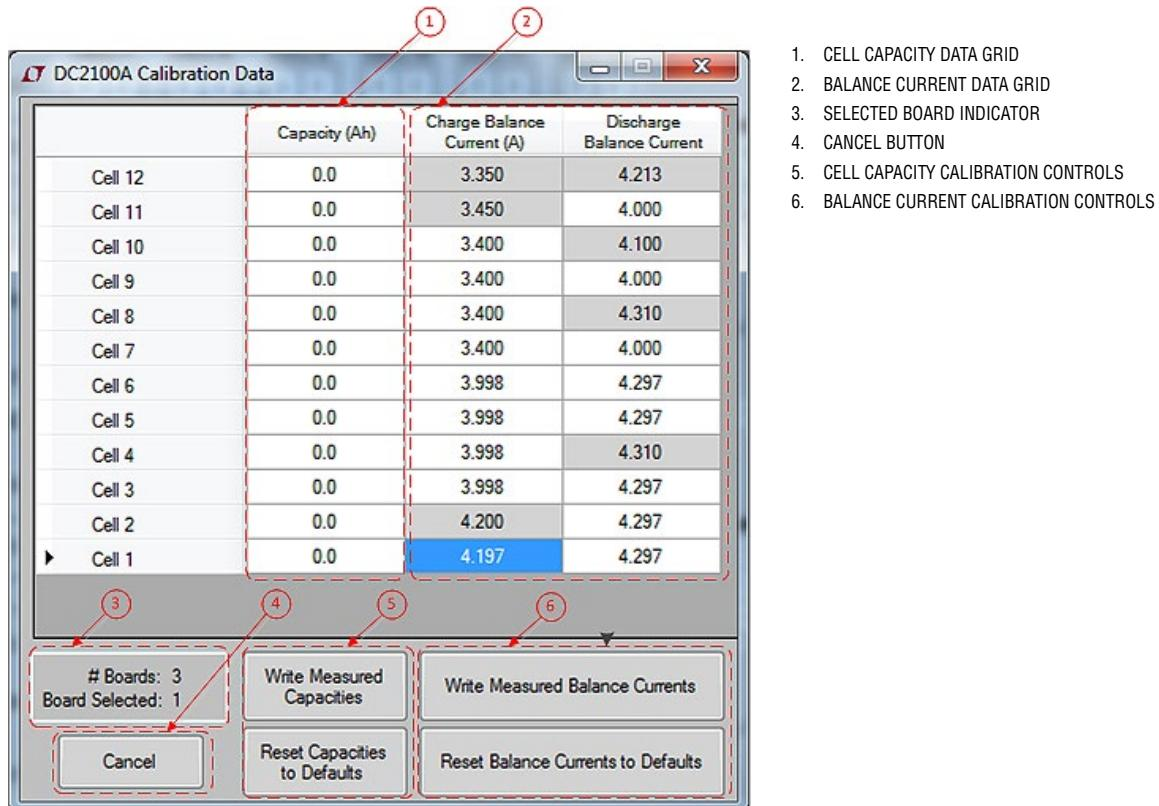

Figure 31. Calibration Data Window
4. EVENT LOG WINDOW - FIGURE 31